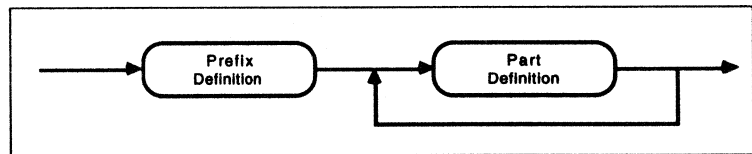

Figure 20-1. Syntax diagram for a library source file.
Figure 20-1 is an example of a syntax diagram. It represents the complete syntax for a library source file.
3. Junctions represent a connection point where you have the choice of selecting another path. For example, the syntax diagram for the library source file shown in figure 20-1 has a junction after a Part Definition. You can choose to complete the diagram or to make another Part Definition.
4. You cannot travel a path going against the arrows. For example, in figure 20-1, you cannot return to the prefix definition after you make a part definition.
Identifiers Identifiers serve as placeholders for a more detailed level of syntax structure. They do not represent command syntax or tokens. Rather, they provide the ability to give an overview of the syntax. When you create the part, you must work down through all the nested identifiers. For example the syntax diagram for a library source file shown in figure 20-1 has two identifiers (Prefix Definition and Part Definition) and no tokens.